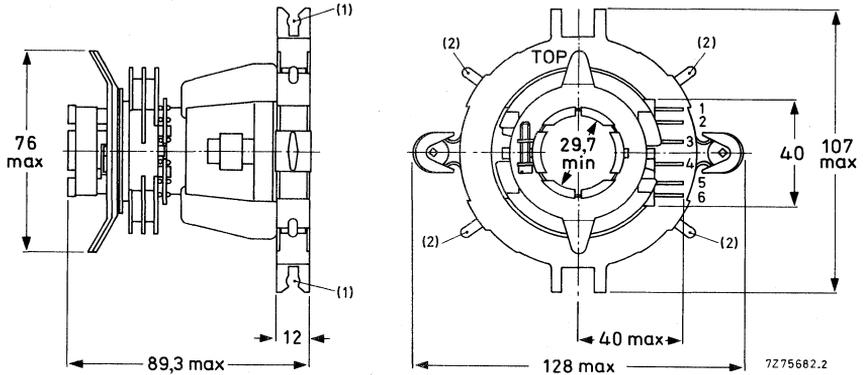
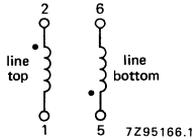

Fig. 1 Deflection unit AT1071/07; Facilities for fitting correction magnets:
Fig. 2a Line coils.
The unit is provided with solder pins for connection. The pin numbering in Fig. 1 corresponds to that in the connection diagram (Figs 2a and 2b).
- **Line deflection coils** (Fig. 2a);